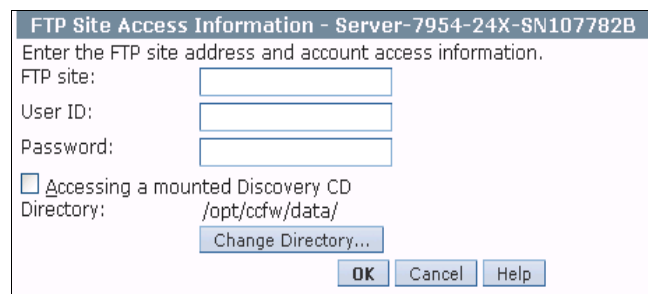

Figure 7-121 FTP server information
5. The FTP option requires specifying a directory on the FTP server. Click **Change Directory**, as shown in Figure 7-121.